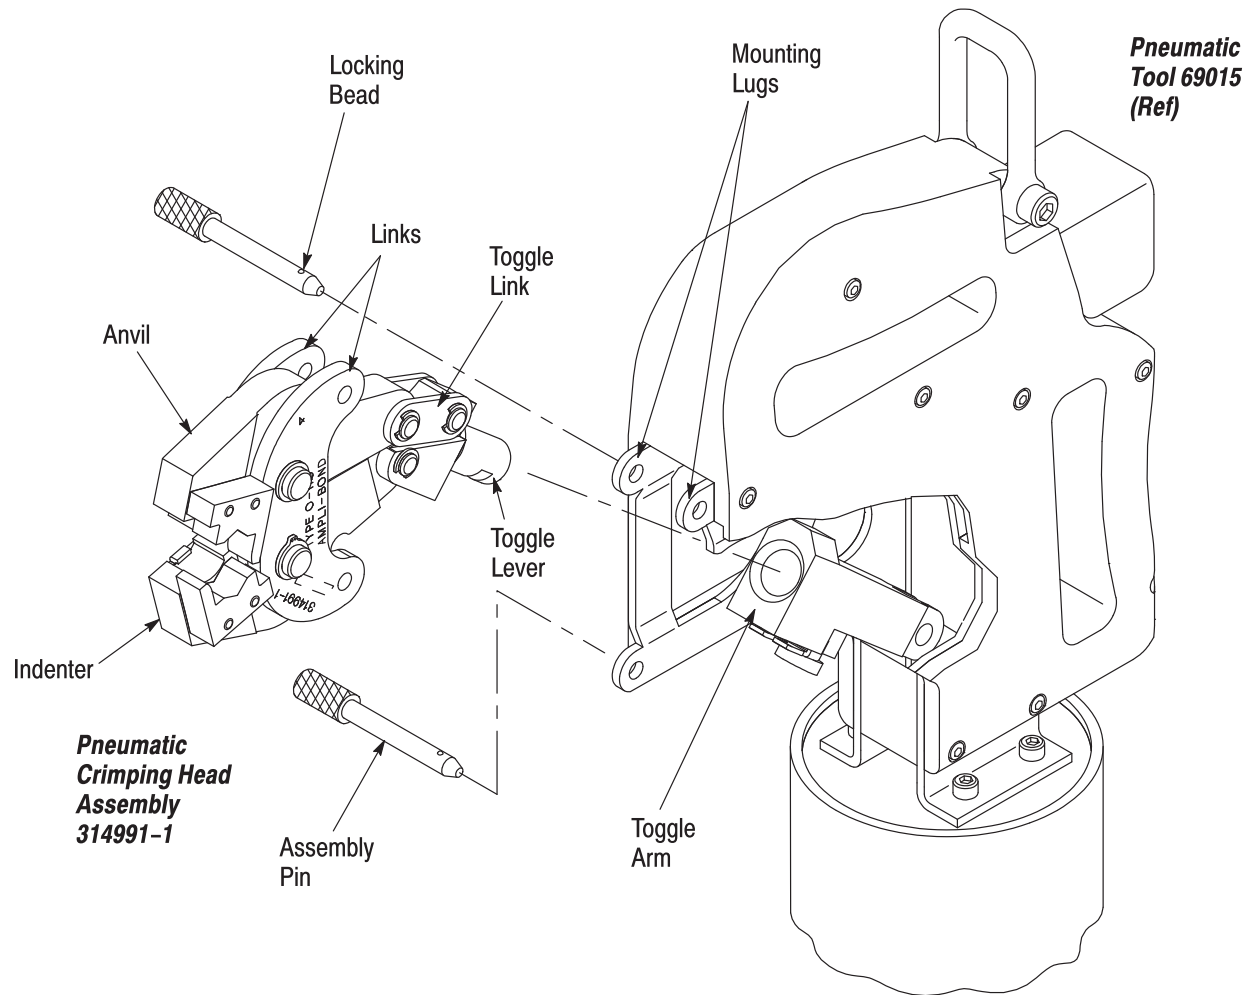

Figure 1
The crimping head assembly features two crimping areas, each marked on the front side of the head to show the wire size. The integral jaws (indenter and anvil) close in an arc-like motion. The assembly includes two toggle links, two links, and one toggle lever. See Figure 1.
1. Remove assembly pins from mounting lugs as shown in Figure 1.
2. Pull toggle arm forward and insert toggle lever of crimping head all the way into hole in toggle arm until it snaps in place. See Figure 1.